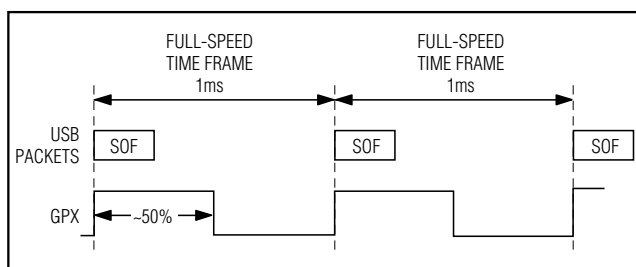

Figure 12. GPX Output in SOF Mode
- **SOF:** A square wave with a positive edge that indicates the USB start of frame (Figure 12).